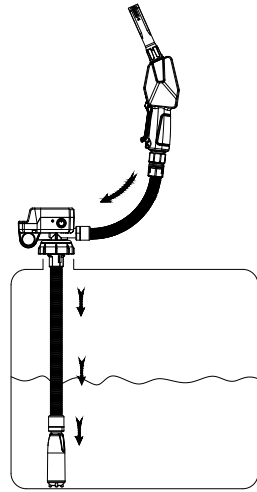

Fig.10
7. After refueling, ensure the pump is stopped, and the indicator light is off. Remove the nozzle, squeeze the handle, and raise the nozzle to allow fuel in the hose to drain back into the tank. Once drainage is complete, release the handle, as shown in Fig. 10.